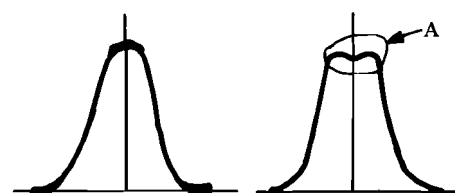

Fig. 11
1. In item 1, set the capacitance of the variable capacitor to minimum and adjust red and blue cores of MF251 so that the wave form is as shown in Fig. 11. As MF251 contains a 455 kHz ceramic filter, sometimes the center of the marker will not correspond to that of the wave form. In this case, neglect the marker. After adjusting as above, increase the output level of the sweep generator and adjust MF251 again so that the top of the wave form A (indicated in Fig. 12) will be flat and wide.
2. In carrying out adjustment described in items 2 and 3, repeat the adjustment so that the output at 600 kHz and 1400 kHz become maximum.
1. Dans le point 1, régler la capacitance du condensateur variable sur la position minimum et ajuster les noyaux rouge et bleu de MF251 pour que la forme d'onde soit identique à celle indiquée sur l'illustration (Fig. 11). Etant donné que MF251 contient un filtre céramique de 455 kHz, il peut arriver que le centre de l'indicateur ne corresponde pas à la forme d'onde.